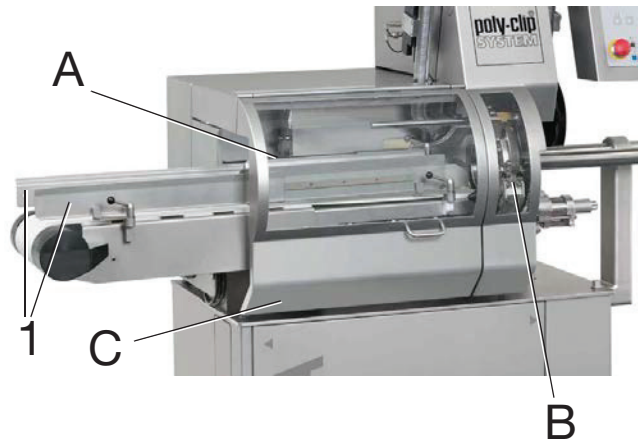

Fig. 9-2 A Protective shutter
- Open protective shutters A to C (Fig. 9-2) at the sausage outlet.
- Remove the sausage guides (1, Fig. 9-2).
- Close protective shutters A to C (Fig. 9-2).